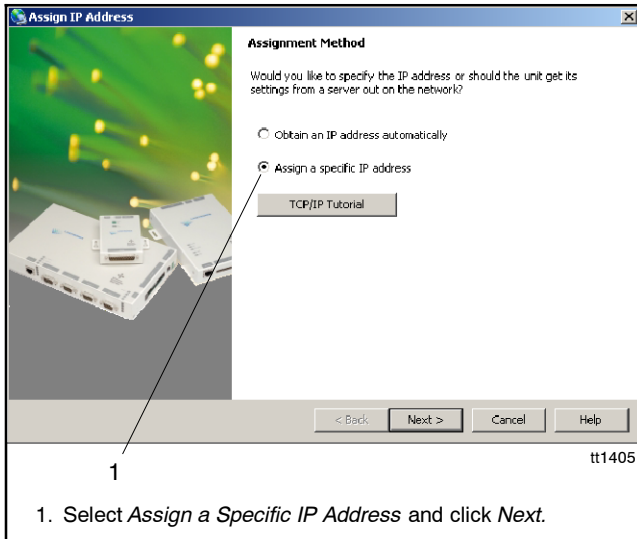

Figure 34 Assignment Method
8. Select *Assign a Specific IP Address* in the Assignment Method window, and click *Next*. See Figure 34.